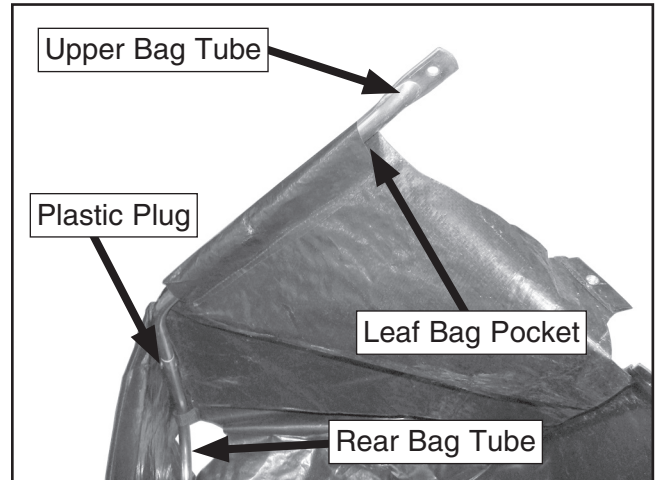

Figure 11. Rear bag tube placement.
- Insert the upper bag tube through the pocket in the leaf bag and into the rear bag tube, then secure it with a plastic plug, as shown in **Figure 11**. Repeat for both sides.